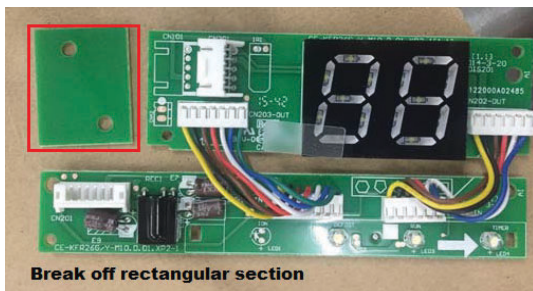

Fig. 18 — Display Board
- Carefully bend and break off the rectangular section (upper left section with two diagonal holes) from the Display Board (see Fig. 18).